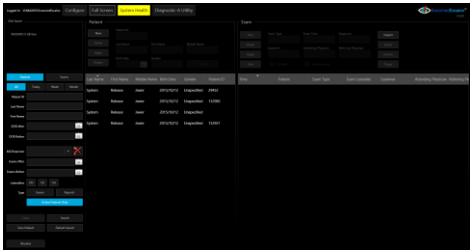

Fig. 7- Patient Database Screen
- ③ **Patient Database Screen:** Upon launching the application the 'Patient Database' screen (Fig. 7) will display. Here you can add a new patient or find previously performed exams.